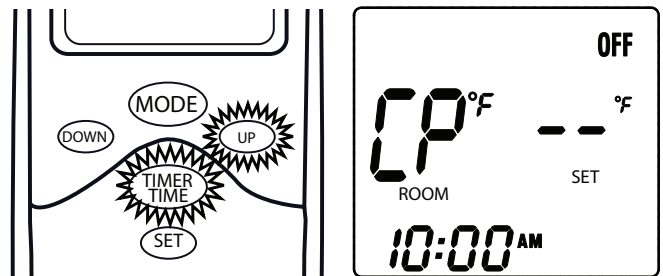

Fig. 21 Child Protection (CP)
1. To activate the “LOCK-OUT” feature, **press and hold** the UP and TIMER/TIME buttons, together, for 5 seconds. The letters **CP** will appear in the TEMP frame on the LCD screen (Fig. 21).